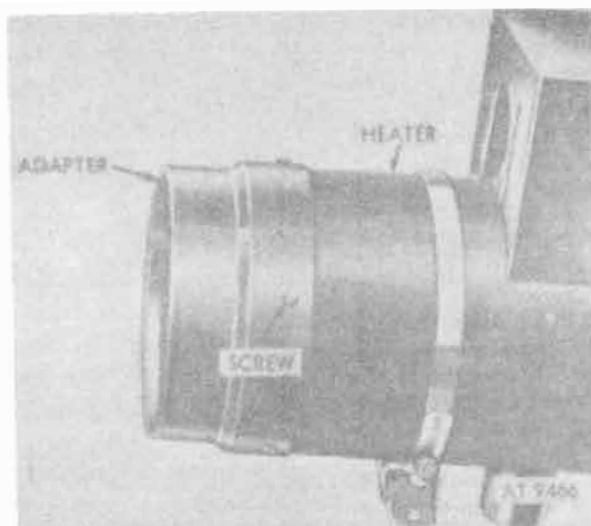
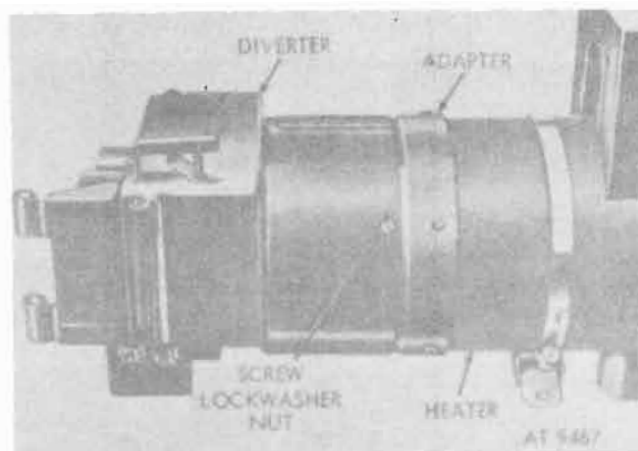

Figure 18-29. Heater (8720193) outlet adapter.
Figure 18-30. Diverter installation on heater (8720193).
(2) When installing heater (8720193), a chalk line is drawn across heater and adapter at top center.
(3) Remove four screws retaining outlet adapter to heater, and remove adapter (fig. 18-29).
(4) Slide diverter assembly onto outlet adapter with top of diverter in line with chalk mark on adapter.
(5) Connect diverter to adapter, using three 8-32x5/16 round head screws, lockwashers, and three hex nuts (fig. 18-30).
(6) Install adapter and diverter assembly to heater (8720193) with four screws (fig. 18-30).